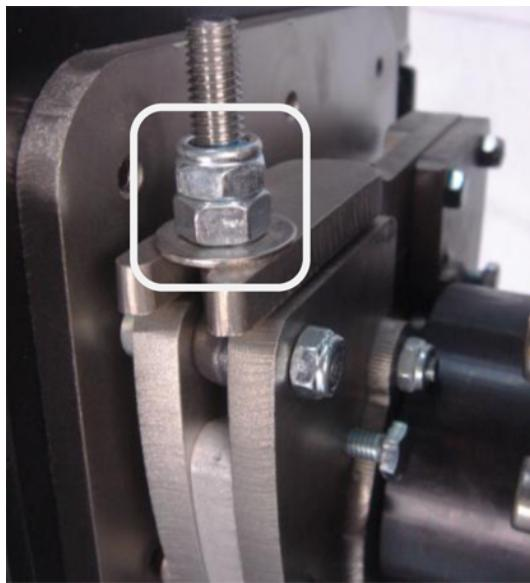

Figure 3-25 Tighten Latch Nuts
6. Tighten (2) latch nuts. (Figure 3-25)